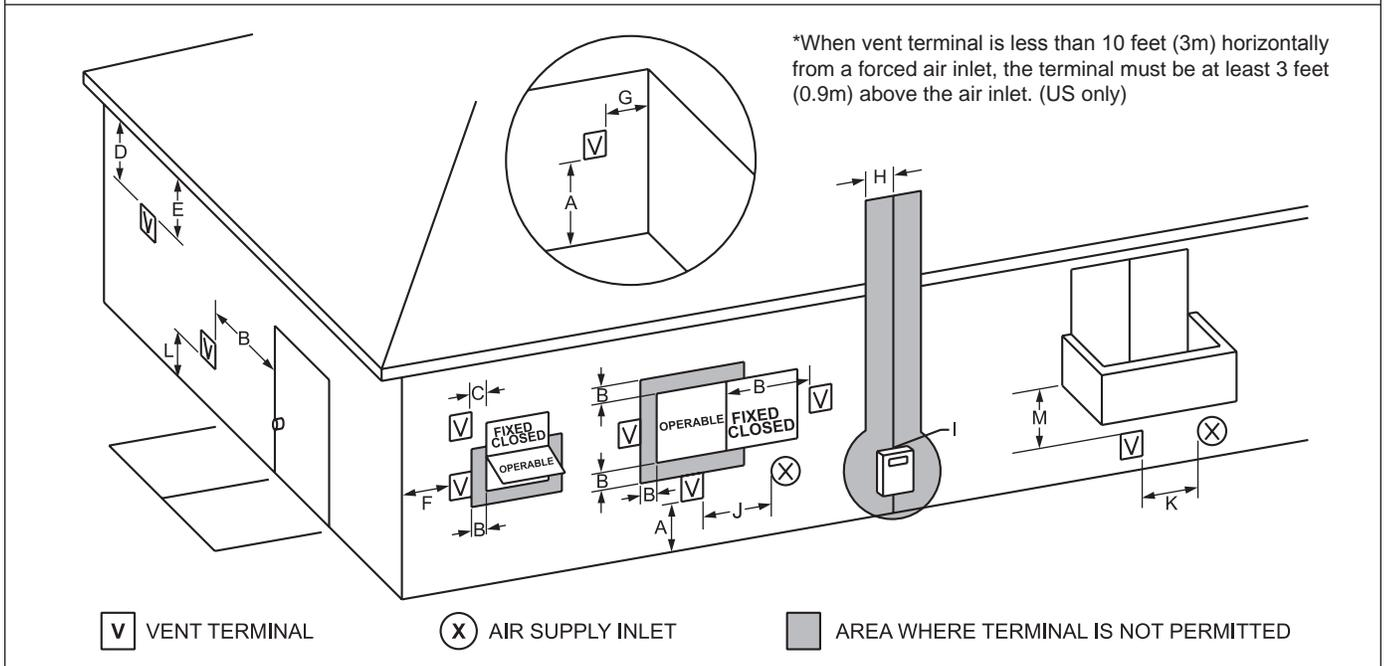
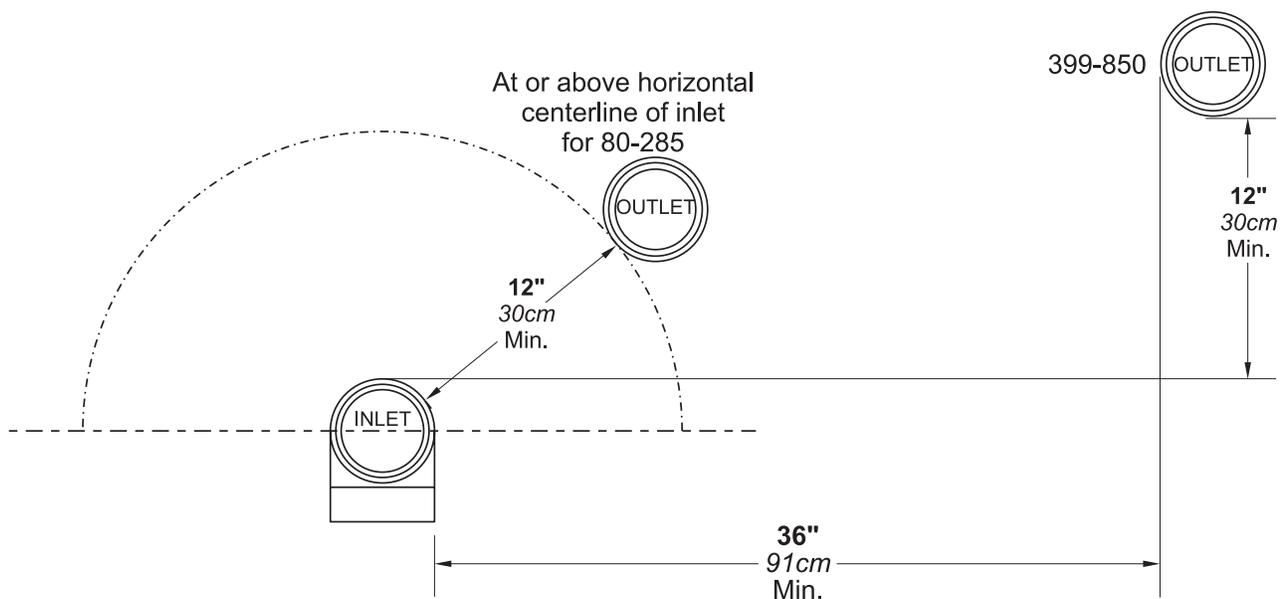

Figure 6. - Combustion Air and Vent Through Side Wall
Figure 7. - Minimum Venting Distance
1. **Figure 6** shows the requirements for mechanical vent terminal clearances for the U.S. and Canada.
7. If the boiler or water heater uses ducted combustion air from an intake terminal located on the same wall, see **Figure 6** through **Figure 7** for proper spacing and orientation.
7. The vent outlet for models 80-285 must be no lower than the center of the air inlet, and must be at least 12" (30cm) away from the air inlet. Vent outlets for models 399-850 must be at least 12" above the top of the air inlet, and must be at least 36" (90cm) horizontally from the air inlet. (See **Figure 7**.)
The LAARS side wall combustion air terminal, or concentric terminal must be used when the heater takes air from a side wall. (See **Table 7**.) Contact Laars for AL29-4C termination fittings. Consider the following when installing the terminal. (See **Figure 6** through **Figure 7**.)